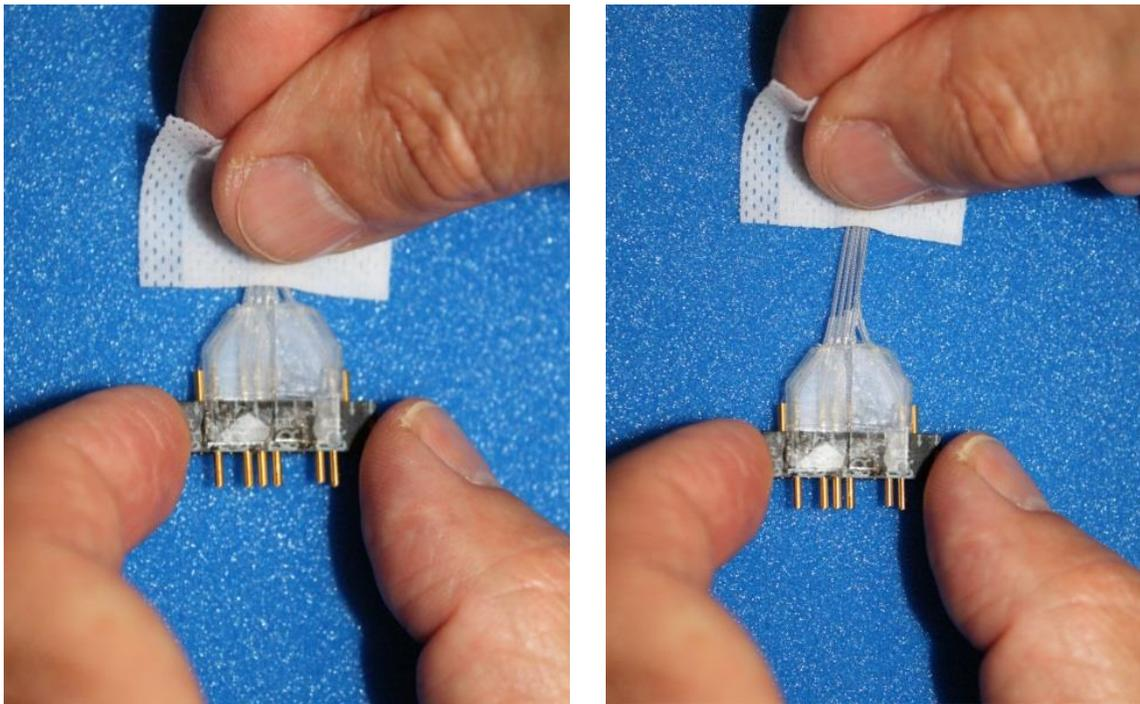

Figure 17
4. Clean the exit sites with an alcohol wipe (with 70% isopropyl alcohol). Always wipe toward the exit site. Allow the alcohol to air dry before use (Figure 17).